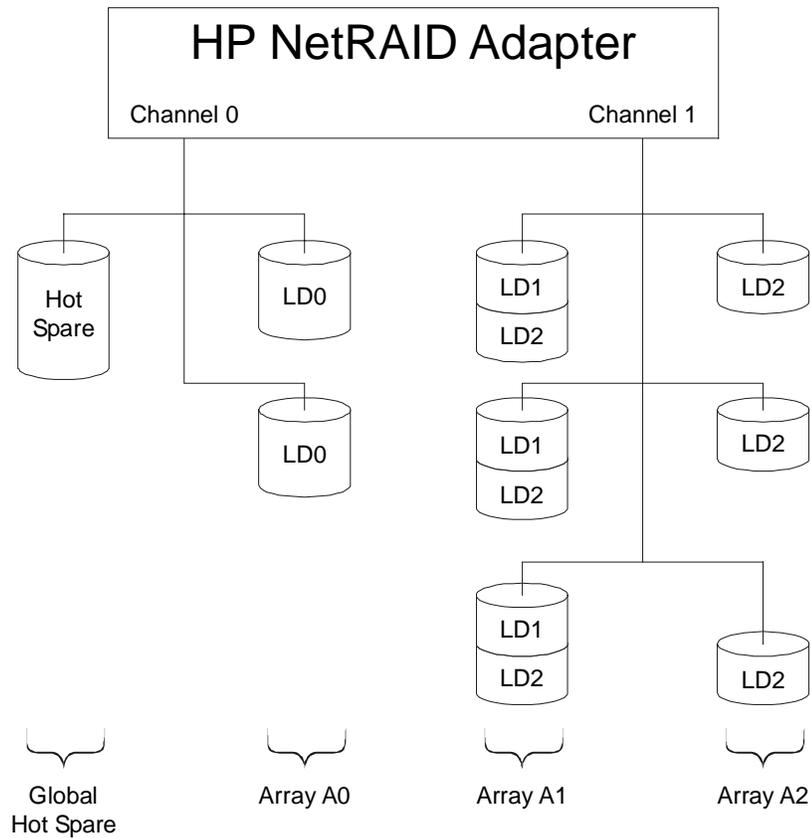

Figure 2-3. Sample Configuration with Three Arrays and Three Logical Drives
- A logical drive can use all of the storage capacity of one array. In Figure 2-3, Logical Drive LD0 uses all storage capacity in Array A0.
- A logical drive can use less than the available storage capacity of one array. In Figure 2-3, Logical Drive LD1 occupies only a part of Array A1.
- A logical drive can span arrays by spreading across up to eight different arrays. In Figure 2-3, Logical Drive LD2 spans Arrays A1 and A2.
In Figure 2-3, there are nine physical drives in three arrays, with one global hot spare.